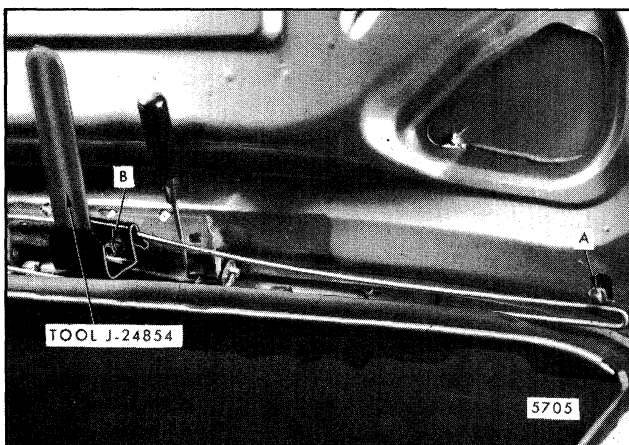

Fig. 7-3-Rear Compartment Lid Removal - "11" Styles
2. With helper holding lid, disengage outer ends of torque rod from retaining clips in compartment lid inner panel ("A", Fig. 7-3).
3. Using large flat-bladed tool, pry torque rod rearward to enable grasping "loop" of torque rod with torque rod removing tool J- 24854 or equivalent, as shown in Figure 7-3. Finger tighten torque rod removing tool retaining screws ("B", Fig. 7-3) to prevent tool from disengaging from rod during removal operation.